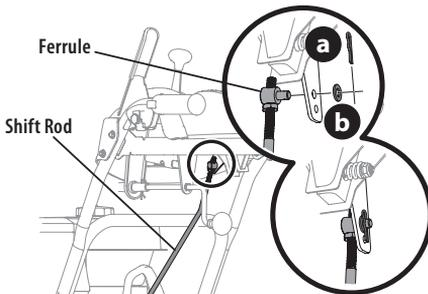

Figure 32
2. Remove cotter pin (a) and washer (b) from ferrule on end of shift rod (Figure 32 inset).
4. Insert ferrule into top hole of shift lever and secure with cotter pin (a) and washer (b) removed in Step 8 (Figure 32). Ferrule may need to be adjusted up or down.